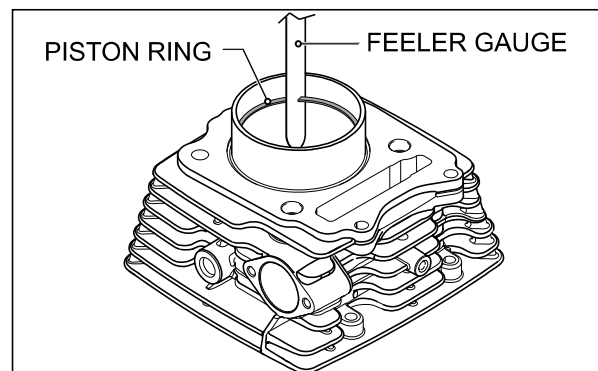

Fig. 3.97
- Install the ring in the cylinder block, using the piston, push the ring into the cylinder block bore at 20 mm from the bottom. This will make the ring to seat squarely in the cylinder block. Using a feeler gauge measure the close end gap. (Fig. 3.97)